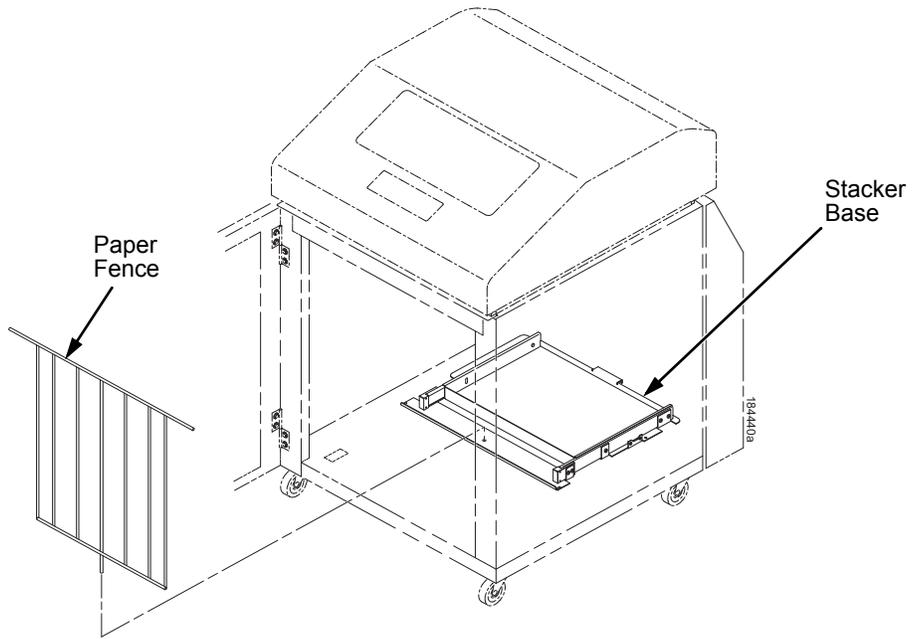

Figure 24. Paper Fence
32. Install the paper fence. (Figure 24.)